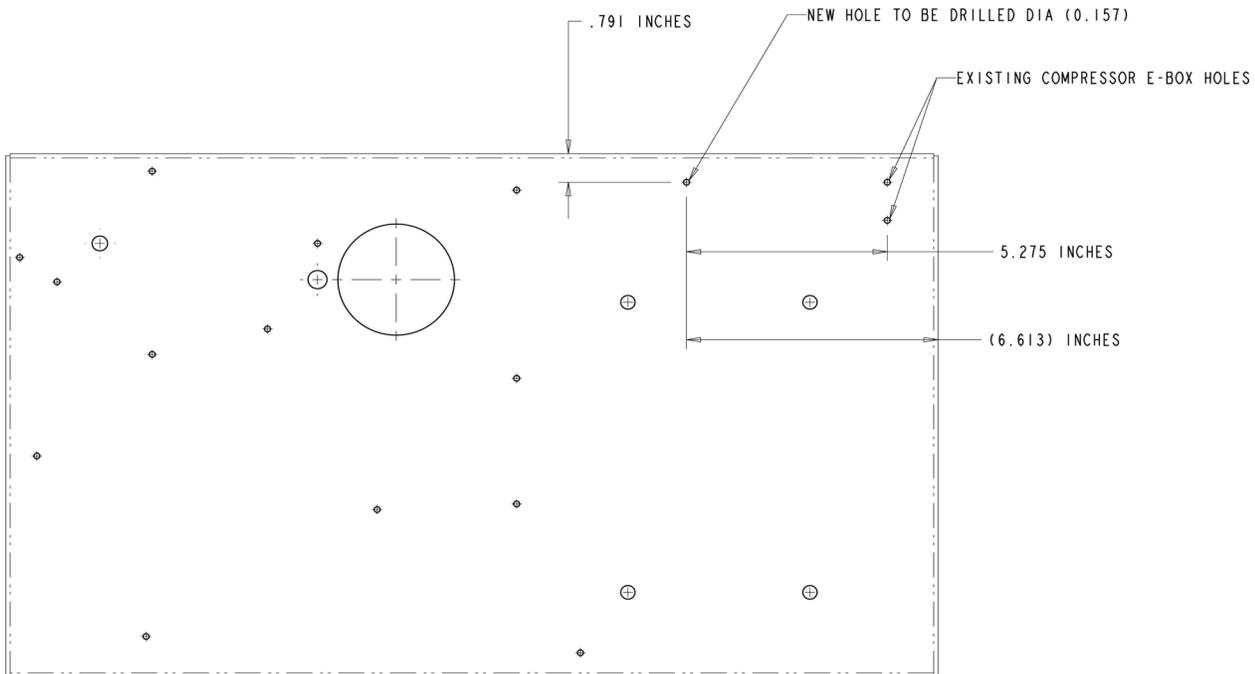

Figure 2. Location of the hole to be drilled on base panel
4. Drill a 0.157" diameter hole on the base panel as shown in Figure 2 for mounting the new Compressor E-Box.